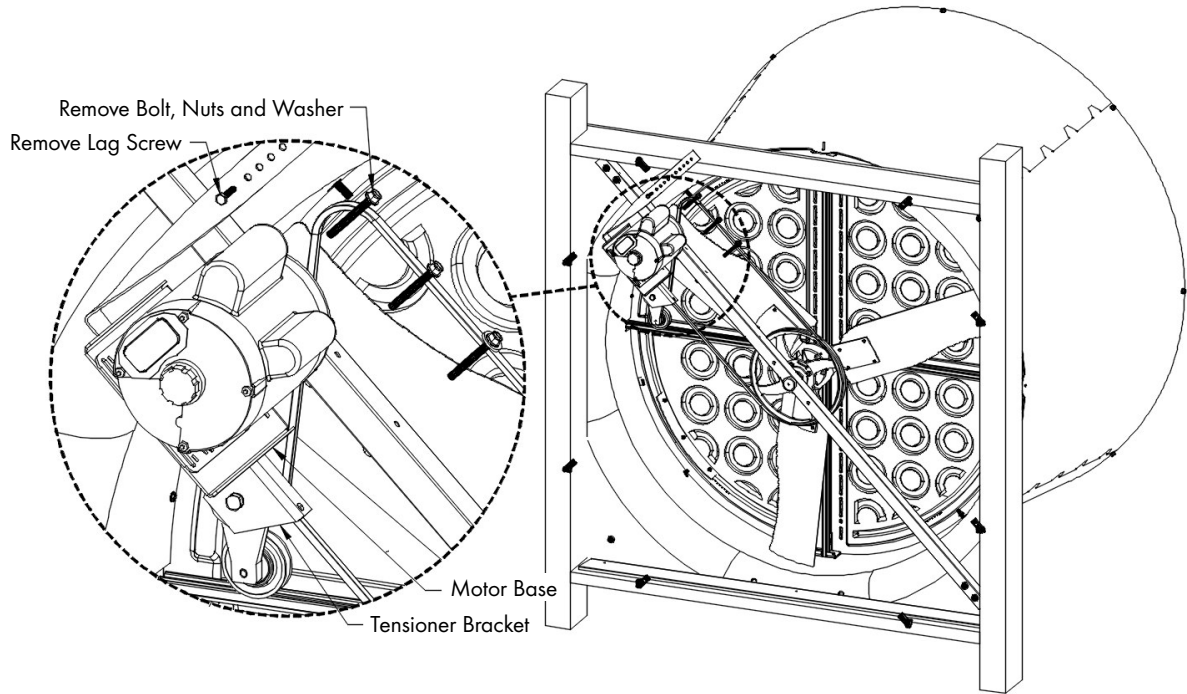

Figure 3
Disconnect the electrical power leads from the motor. Remove belt from fan. Remove lag screw from stiffener bracket. Remove the (3) bolts and (6) nuts holding the motor base and tensioner bracket to strut and remove motor with base and tensioner from fan. See Figure 3.